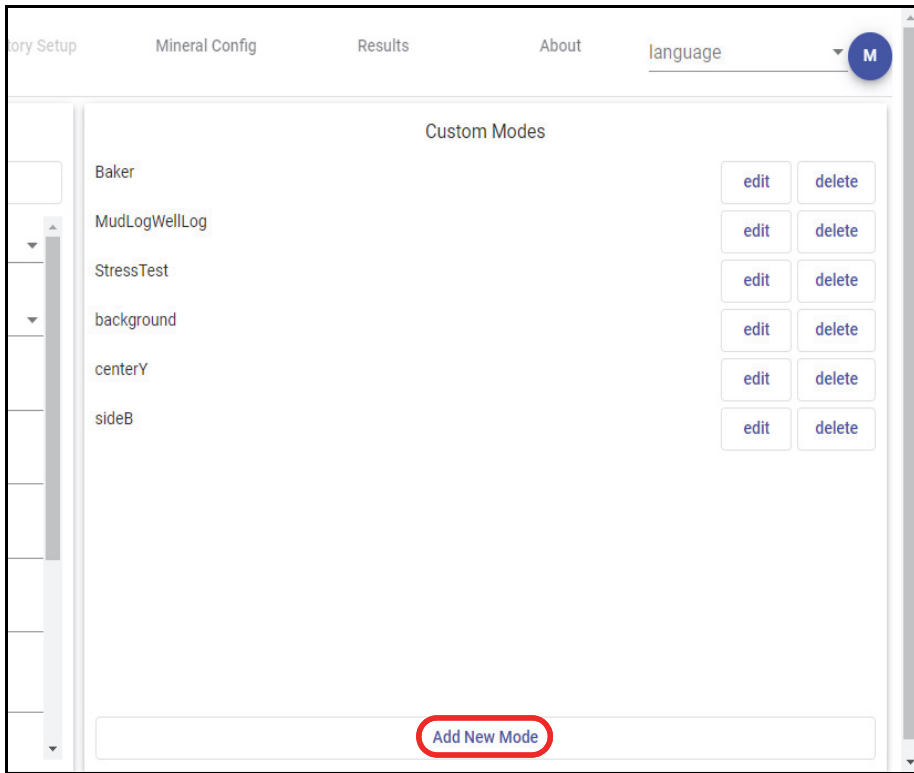

Figure 5-12 Add New Mode button
1. At the bottom of the **Custom Modes** dialog box, click **Add New Mode** (see Figure 5-12 on page 78) to display the **Add New Mode** dialog box.